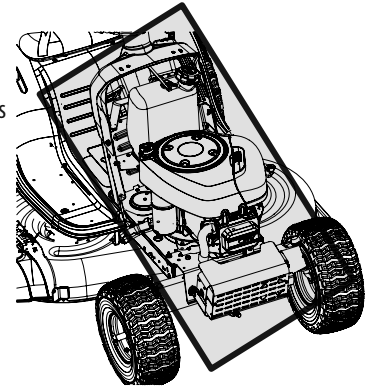

Figure 21
- Clean under the hood, including exhaust manifold, around fuses, all wiring and harnesses, muffler pipe, muffler shield, engine intake screens and cooling fins, etc. See Figure 21.